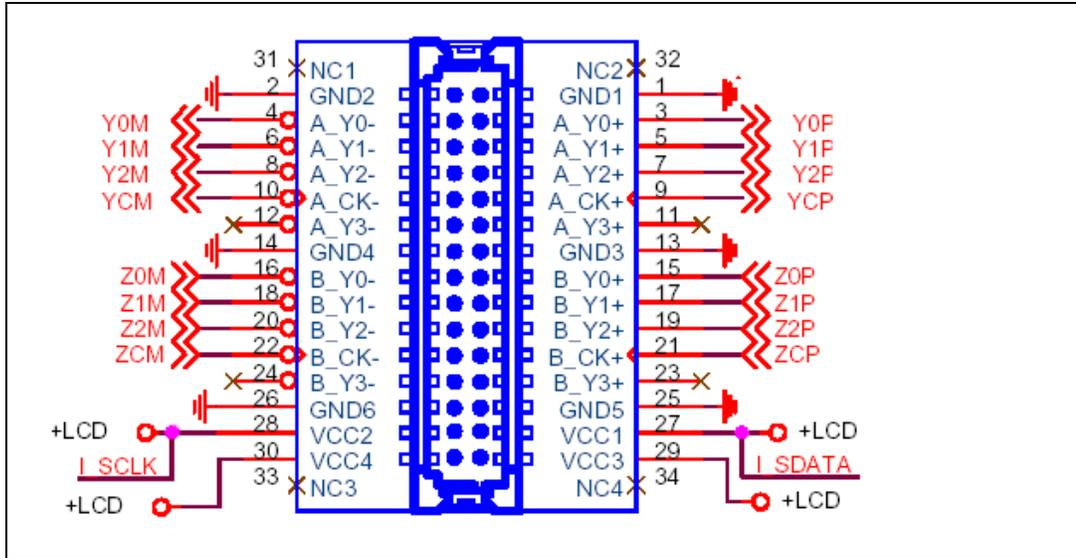

Figure 3-16: LVDS LCD Connector Location
- CN Location:** See **Figure 3-16**